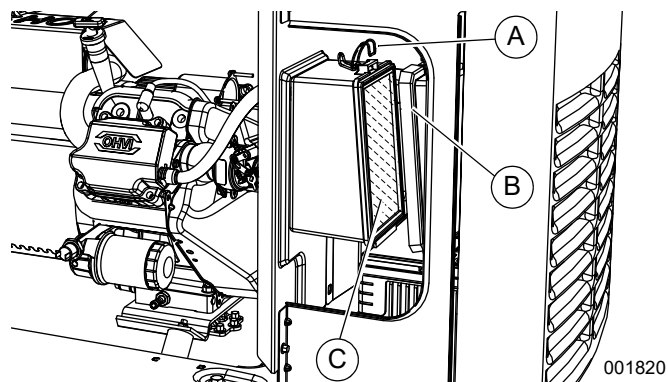
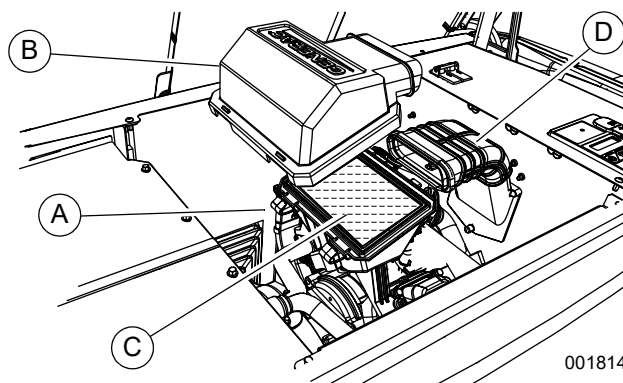

Figure 4-4. Servicing Air Cleaner (10 kW)
Figure 4-5. Servicing Air Cleaner (13–24 kW)
3. See Figure 4-4 or Figure 4-5. Remove cover clips (A) and air cleaner cover (B).